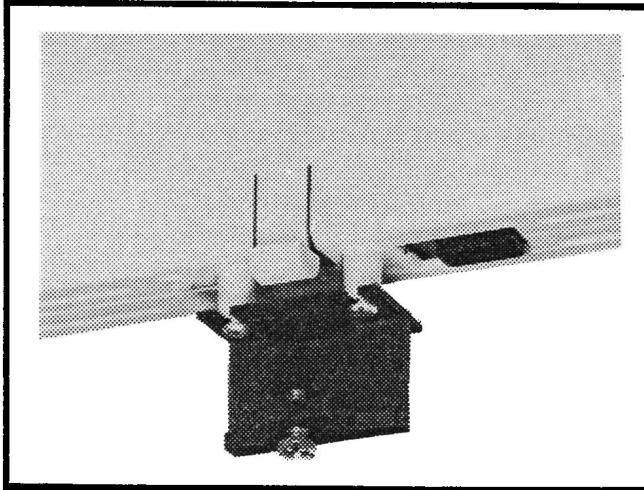

Figure 9 Remount Screw Clamp on Bottom of Housing
6.18 Some linefinder shelves may not have enough clearance below the angle iron to mount the M-164-71's. In these installations the M-164-71's are mounted upside down above the angle iron. Alternatively, the mounting bracket may be moved to the bottom of the housing and the unit mounted right side up (See Figure 9).